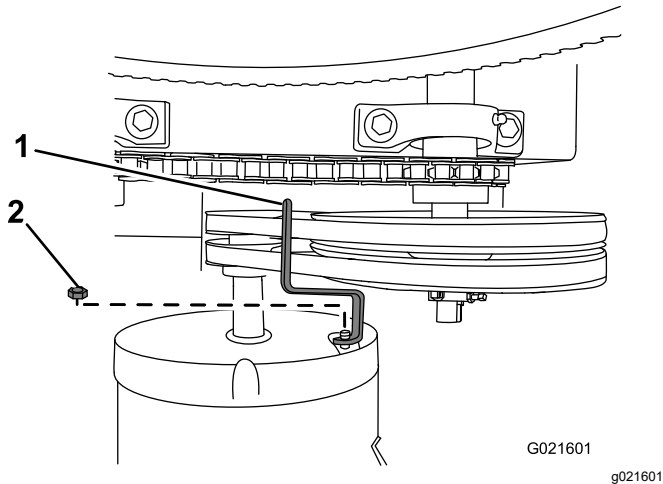

Figure 37
3. Remove the nut that secures the belt guide to the motor, and remove the belt guide (Figure 37).
7. Loosely secure the belt guide to the motor (Figure 37) with the bolt that was removed in step 3 of Removing the Belts \(page 28\).